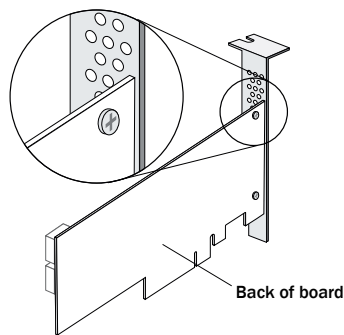

Figure 1
1. Remove the full-height bracket from the controller board. The full-height bracket is installed on the front side of the controller, with the mounting screws inserted from the back of the controller, as shown in the Figure 1.